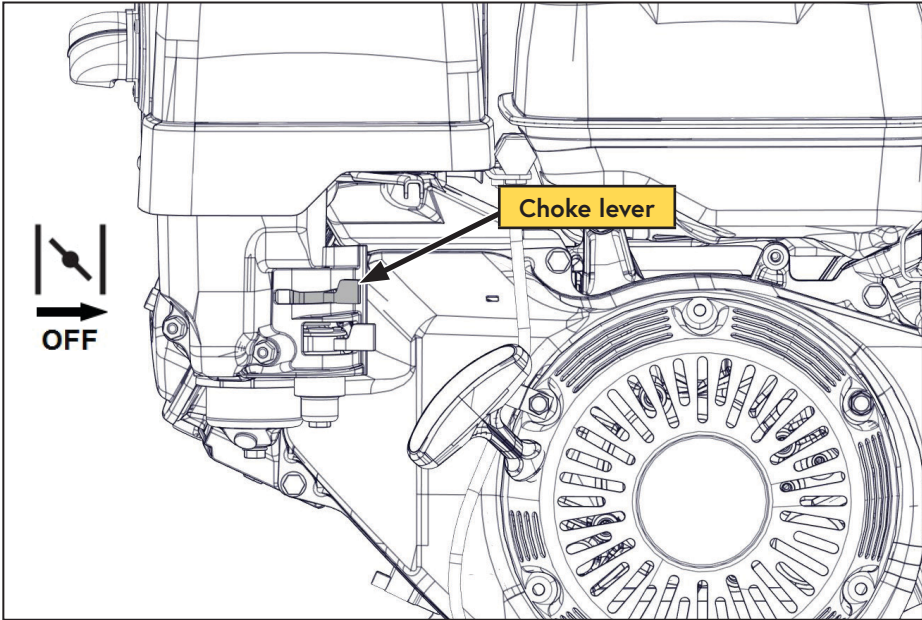

Figure 14 — Choke
- 6) Once the engine is running, gradually open the choke by moving the choke lever to the right as the engine warms up (Figure 14).